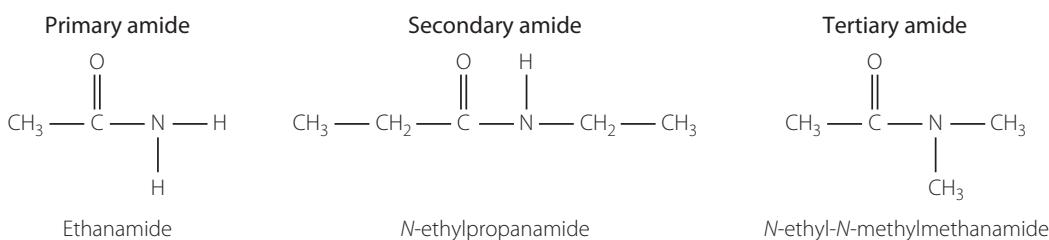

FIGURE 9.15 Primary, secondary and tertiary amides. Note the common structure of the amide group in the main chain.
Amides are derivatives of carboxylic acids and are formed when the $-\text{OH}$ group of the acid is replaced by an amine ($-\text{NH}_2$, $-\text{NHR}'$) group. The amide formed is a stable covalent molecule with no acidic or basic properties. Amides all contain the structural unit $-\text{CO}-\text{NH}-$, which is shown in Figure 9.15. This amide link occurs in proteins and **polyamides**. As with amines, amides are classified as **primary**, **secondary** or **tertiary amides** depending on the number of alkyl chains attached to the nitrogen.
- 2 name any alkyl groups bonded to the nitrogen atom as *N*-alkyl in front of the amide name (for example, in Figure 9.15 the second molecule has an ethyl group attached to the nitrogen so is *N*-ethyl); the *N*- designation on the alkyl groups shows that the alkyl group is directly attached to the nitrogen atom